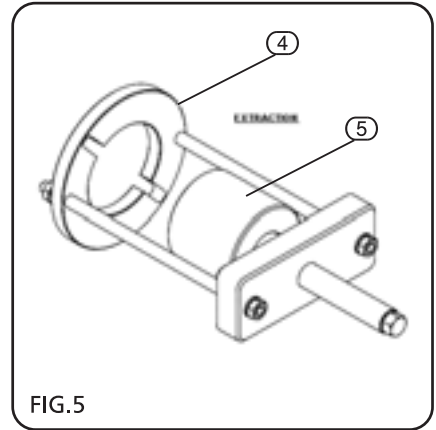
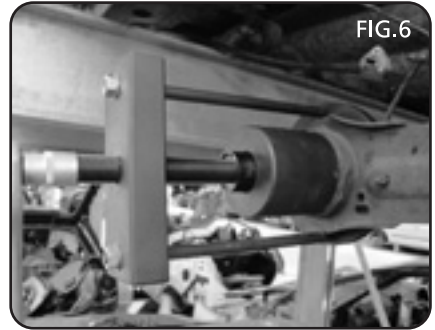

FIG.5
FIG.6
### 6.3 BUSH EXTRACTION - FIGS 5 - 10
- Using the components shown in Fig.5, mount the trailing arm bush tool on the arm as shown and push out the old bush by turning the thrust screw in a clockwise direction as shown in Fig.6.